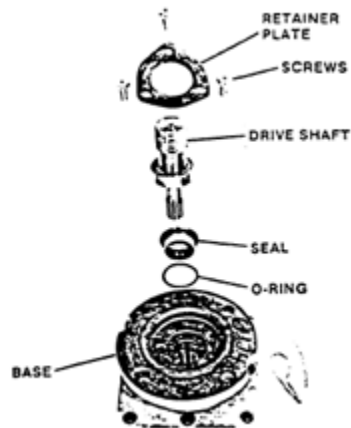

Figure 5-19. Drive Shaft
25. Remove 3 screws and retainer plate. Lift out driveshaft seal and gasket (Figure 5-19).